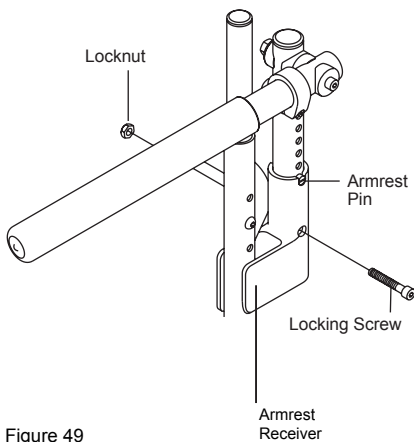

Figure 49
1. To lock the armrest in place after the armrest is seated in the armrest receiver in the desired position, insert the locking screw through the armrest receiver and the armrest. See Figure 49.